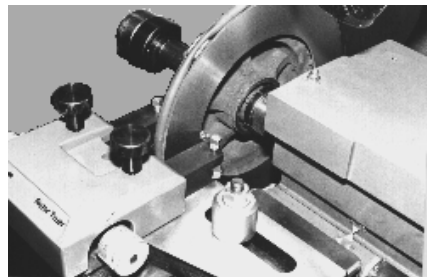

Figure 57
14. Check the silencers periodically for possible damage. **See Figure 57.**